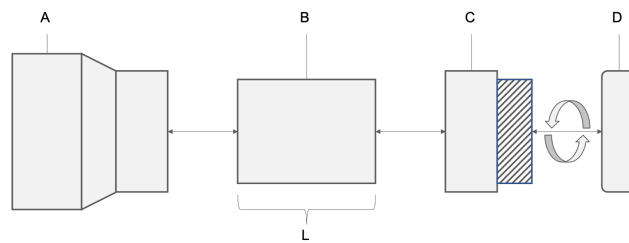

Figure 2.1: PVC didgeridoo construction
The didgeridoo will be constructed from three PVC components seen in Figure 2.1: a reducing coupling (A), a pipe (B), and a trap adapter (C and D). The length (L) of the pipe is variable and determines the key of the instrument. The mouthpiece is in two pieces. Part D will need to be threaded onto Part C. All other fittings should be pressed on until secure. No adhesives are used in this construction.